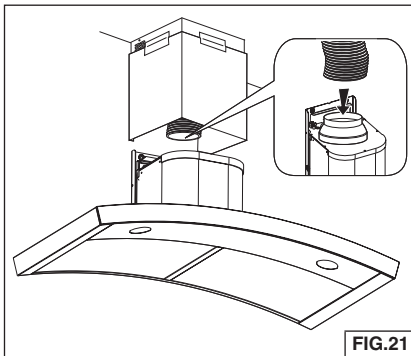

FIG.21
8. Stretch expandable duct, attach it to the 6"-to-8" adapter and tape duct joints. Fig. 21.